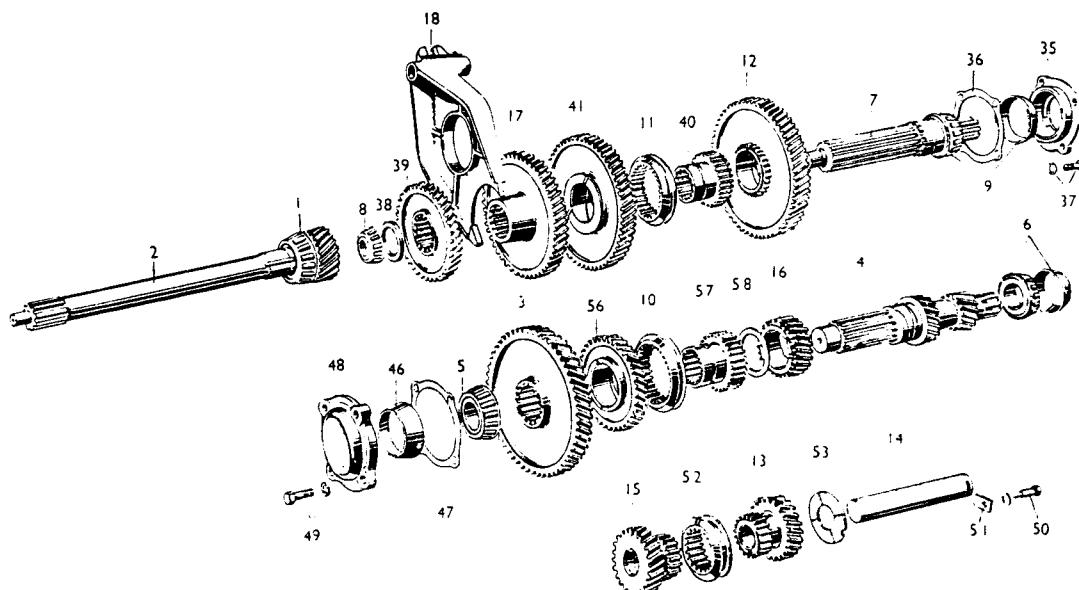

FIG. 6
4. Withdraw cotter pins and unscrew slotted nuts from shifter stop securing bolts (30).
5. Withdraw bolts and remove shifter rail stop (31) and spacers (32). Detach starter link from reverse shifter rail by removing clevis pin.
6. Withdraw shifter rails to the rear, removing selectors (33) and (34) and 1st and 2nd gear shifter fork (19). Remove plunger from central (3rd and 4th gear) shifter rail (22) and balls (27) from drilling in casing joining selector rail locating holes. Examine oil seal in reverse shifter rail locating hole. Remove and renew if any indication of oil leakage has been shown. Renew expansion plugs where necessary.
7. Remove rear mainshaft bearing retainer (35) Fig. 6 and shims (36) secured by 4 setscrews (37) with lockwashers.
8. Withdraw the mainshaft to the rear. If necessary, lightly tap 1st gear wheel to disengage shaft from pilot bearing (8) in main drive pinion.
#### To Dismantle Countershaft Assembly. See Figs. 6 and 1.